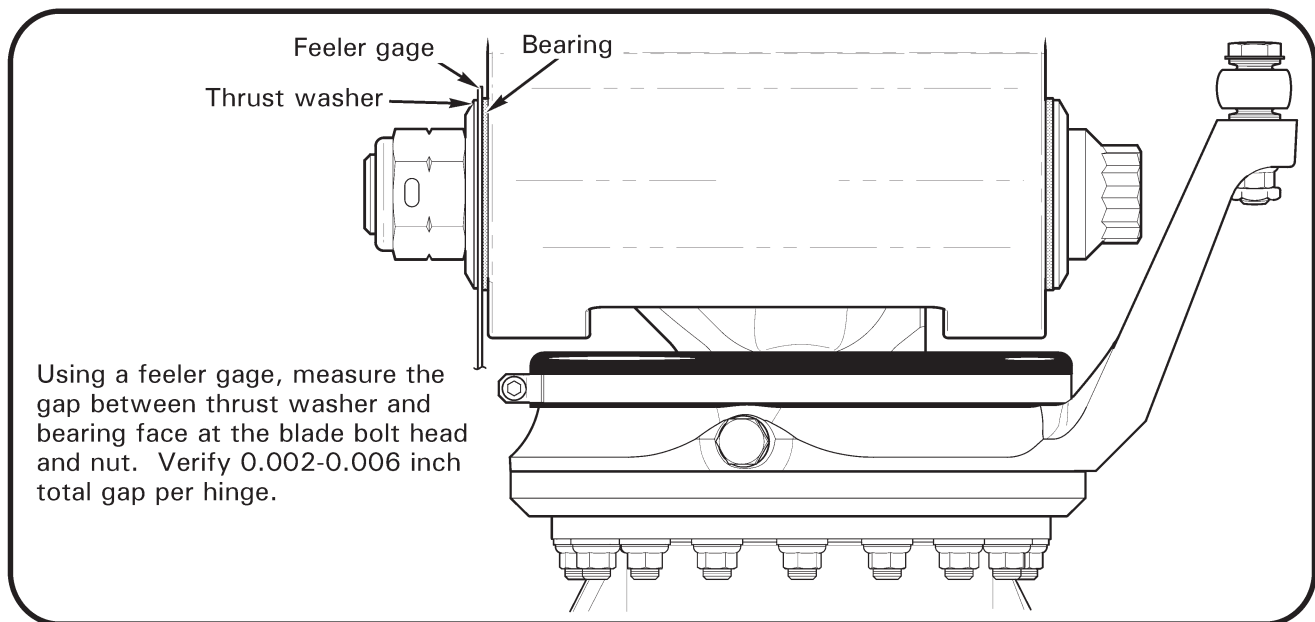

FIGURE 62-7A MEASURING CONING HINGE AXIAL CLEARANCE
5. Adjust shim stack as required to meet coning hinge axial gap requirement per Figure 62-7A and to maintain teeter friction requirement as follows: It must be possible to manually cone each blade without teetering the hub when blades are held up off the droop stops and lifted at tip. Increasing shim stack-up decreases hinge friction.